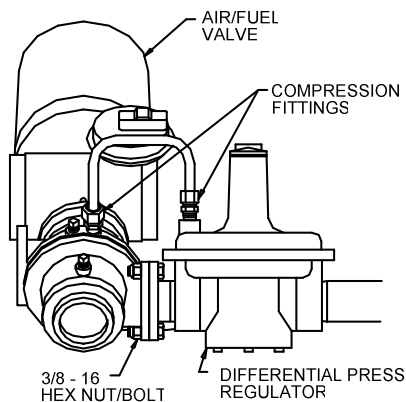

Figure 7.7
- Using an 11/16" wrench, loosen the compression fittings on the feedback tube between the air/fuel valve and the differential pressure regulator. Remove the feedback tube (Figure 7.7).
- Using two 9/16" wrenches, remove the two 3/8-16 hex nuts and bolts securing the air/fuel valve to the differential pressure regulator (Figure 7.7).